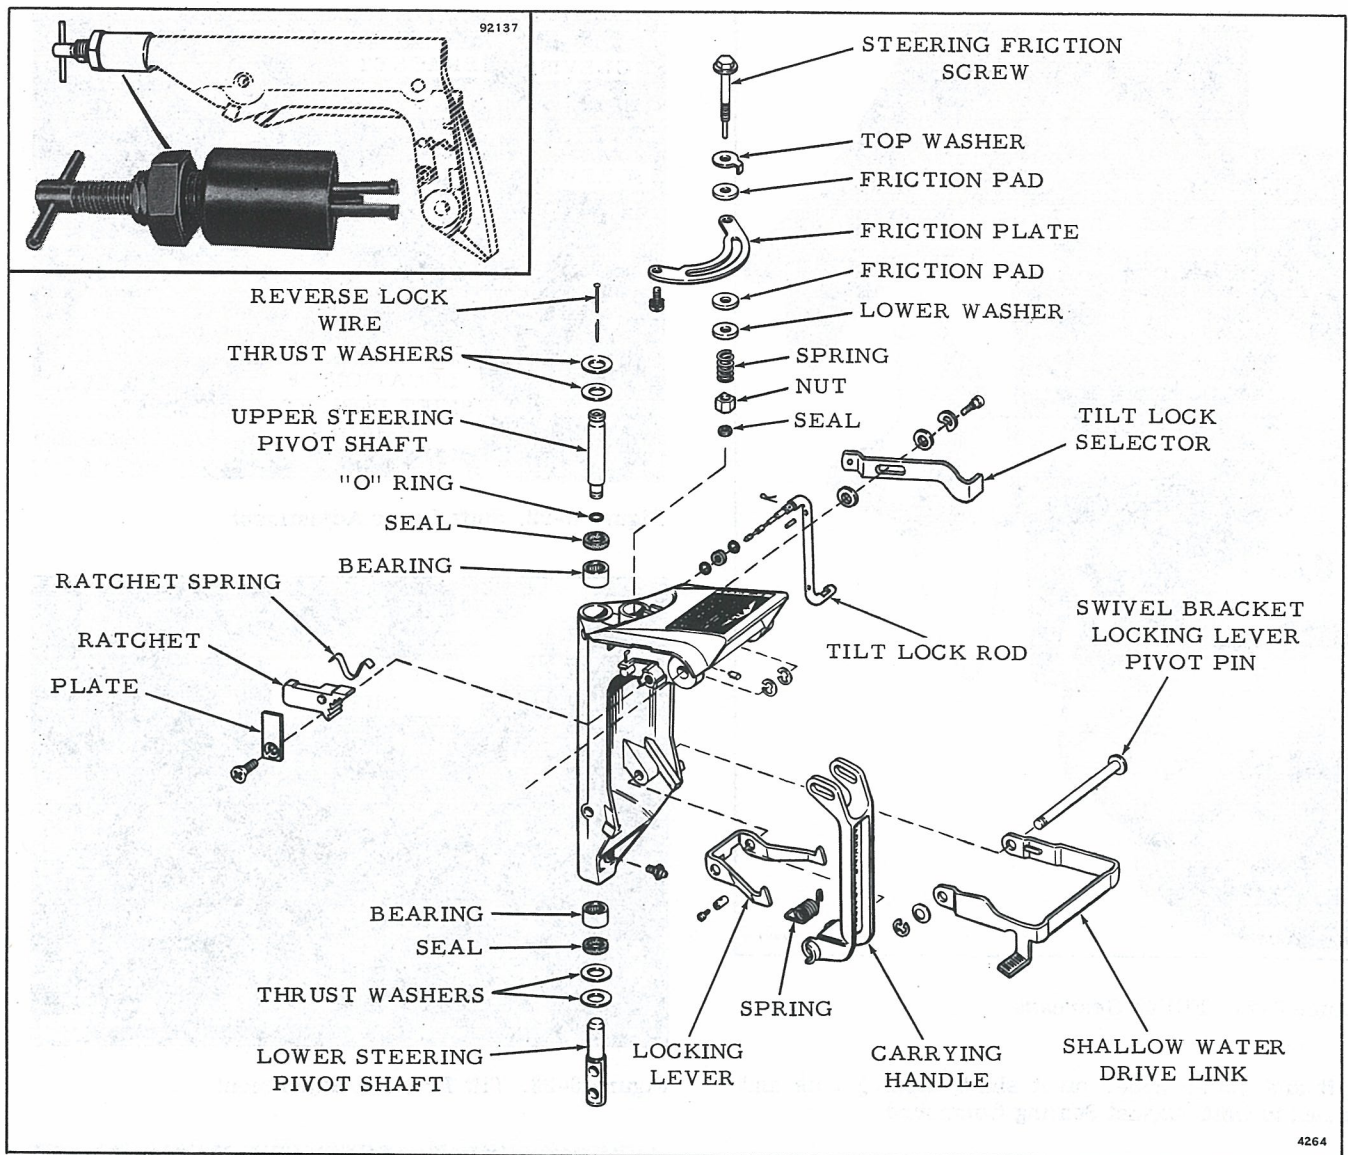

Figure 6-20. Swivel Bracket Components
c. Remove upper and lower seals and bearings from swivel bracket, see Figure 6-20, using Special Tool #380655.
- a. Press bearings and new seals into swivel bracket using special tools #312000, 312001. If removed for service, reassemble tilt lock, reverse lock, shallow water drive, and ratchet to swivel bracket. See Figure 6-20.